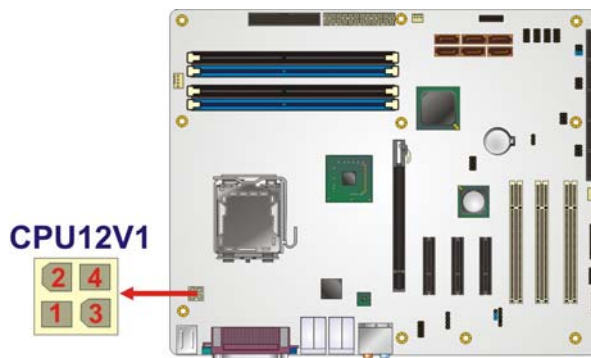

Figure 4-2: AT Power Connector Location
- CN Location:** See **Figure 4-2**